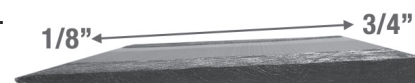

Figure 1
- Refer to **Figure 1** to see the tapered shape of the End Cap (from 1/8” to $\frac{3}{4}$ ”)